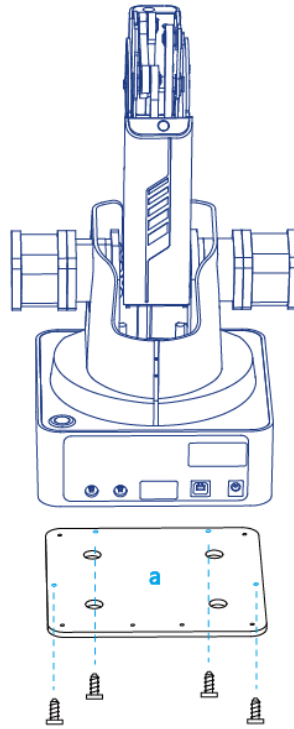

Figure 5.31 Fix plate a
- Step 1** Mount Dobot Magician on the plate a with four M3\*10 countersunk head cap screws (Make The counter bore of plate a outward), as shown in Figure 5.31.